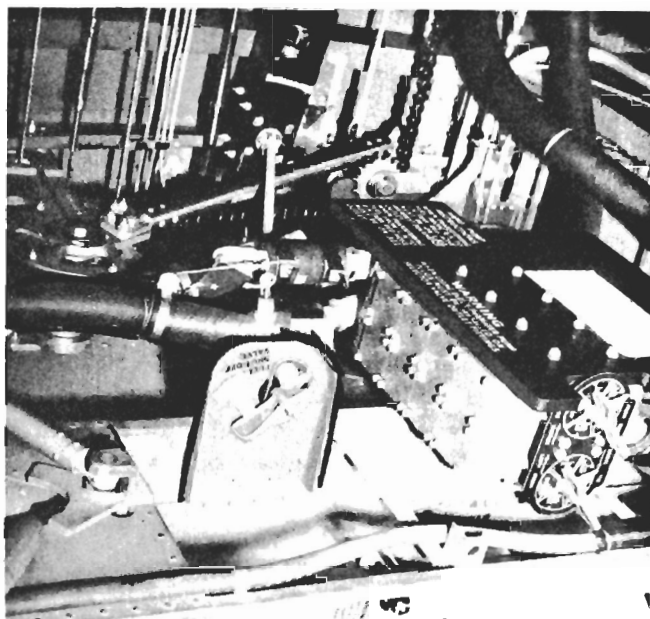

Figure 2 — Fuel Transfer System
f. FUEL TRANSFER SYSTEM. (See figure 2.)
(1) **GENERAL.**—Fuel is transferred through a selector valve from the auxiliary wing and bomb bay tanks to the main tanks by a reversible electric pump. Two selector handles with dial markings for each tank are mounted on the inboard side of the selector valve. (See figure 2.) It is possible to transfer fuel from any tank indicated on one dial to any tank indicated on the other, or to transfer fuel between two tanks indicated on the same dial by first pumping into an intermediate tank. The direction of fuel flow is determined by the setting of the three-piston transfer pump switch. The switch is pushed forward to pump from tanks indicated on the aft dial to tanks indicated on the forward dial, and pushed aft to reverse the flow. The switch must be turned "OFF" immediately when the warning light glows, denoting that the tank from which fuel is being pumped has been emptied. The pilot's fuel gage should also be constantly checked.